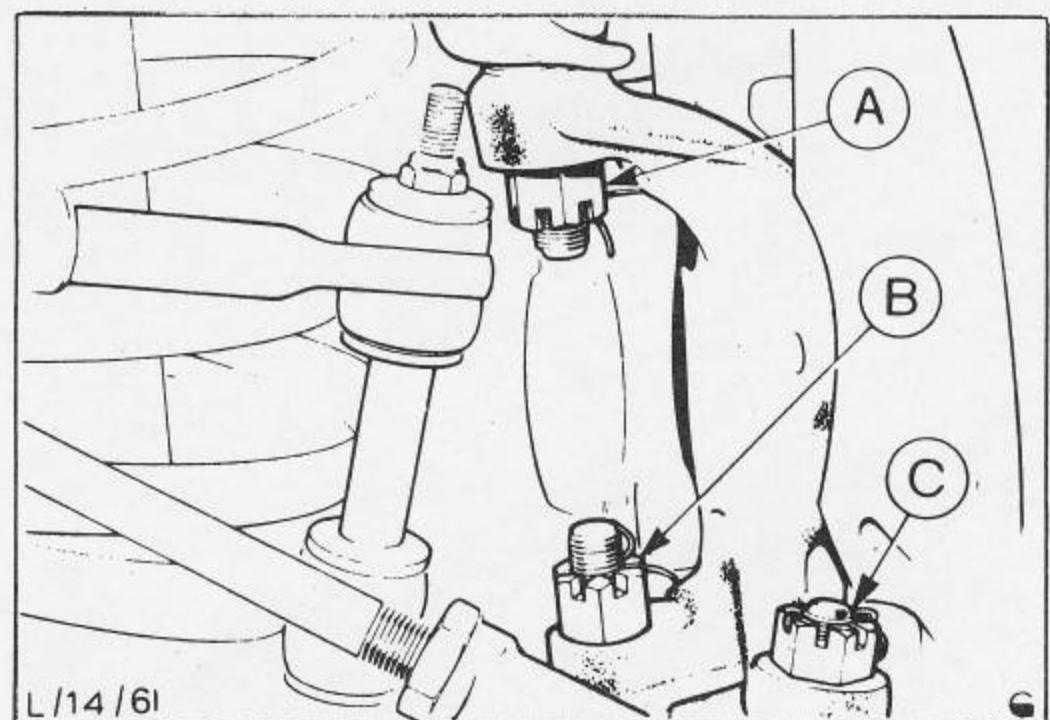

Fig.35 Stub axle securing points.
17. Place stub axle in position, secure lower joint tightening nut to 30 - 40 Ft. Lbs., continue Fig.35 tightening nut until split pin hole is aligned. Fit new split pin and do not exceed 66 Ft. Lbs.